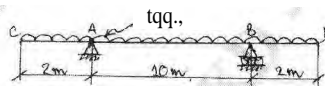

Fig. Q6 (b)
- b. Draw shear force and bending moment diagrams for a beam loaded as shown in Fig. Q6 (b). Indicate the point of inflexion and locate the points of contraflexure and also maximum bending moment. (08 Marks)